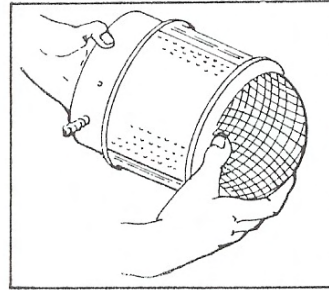

Fig. 14
- (1) Untasten the wire net by turning left. (Fig. 14)